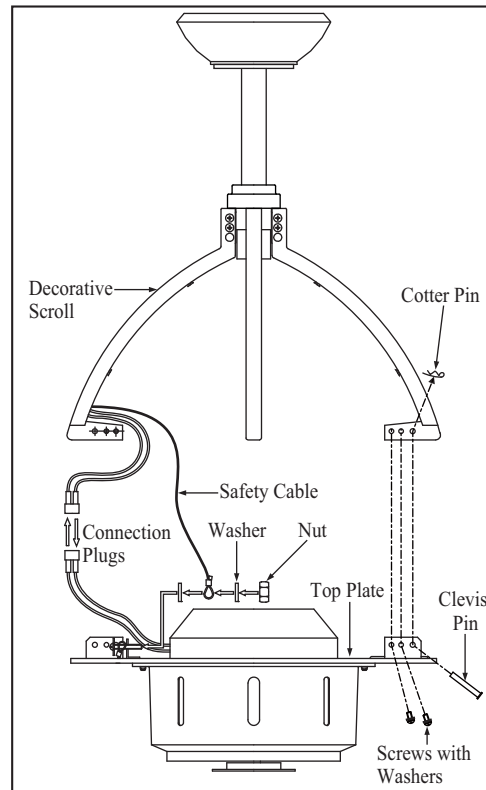

Figure 7
2. Snap together the wire connection plugs from decorative scroll assembly and fan motor assembly. (Figure 7)
3. Remove the nut and washers from the top plate of motor assembly and then place the looped end of the safety cable from the decorative scroll between the two washers and secure with nut provided. (Figure 7)